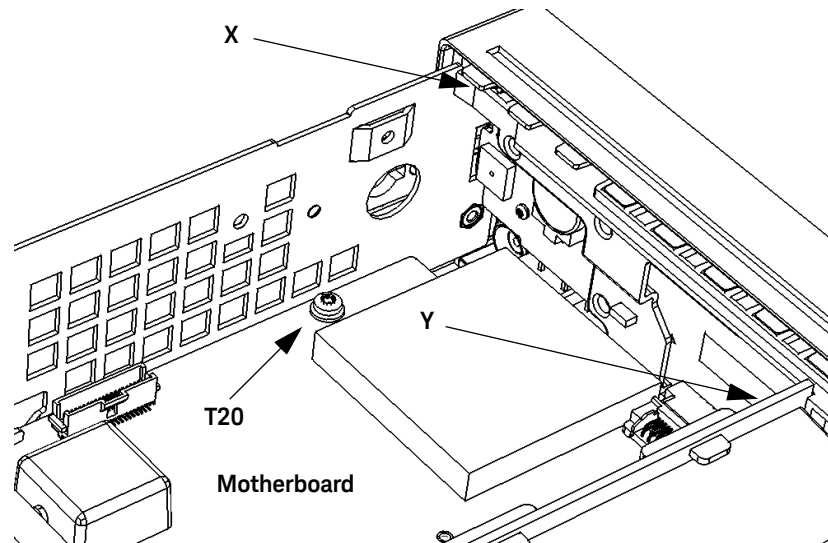

Figure 3-8 Front panel removal
- 9 Turn the counter chassis upright and position the counter as shown in Figure 3-8.
- 10 Remove the T20 TORX screw on the front left-hand side of the motherboard as shown in Figure 3-8.
- 11 With your right hand, press in on the plastic tab (X on Figure 3-8) at the top left front of the front panel, while at the same time, use your left hand to press in on the front of the left-hand aluminum chassis side-panel, so that the front of the side-panel overlaps the depressed tab and keeps it depressed. The left front standoffs should now be free of their holes.
- 12 On the middle front right-hand side of the front panel, pull the plastic tab (Y on Figure 3-8) carefully toward the rear of the chassis and simultaneously press in on the right side panel of the aluminum chassis until the front panel is partially released. The right front standoffs should now be free of their holes.